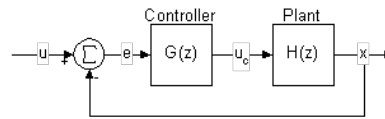

Figure 3: The Control System.
So how about using this in a control problem? Lets say that you want to use the controller described by (40) to control the plant described by (14). Control engineers like to reduce control systems to block diagrams like the one shown in Figure 3. This is an extremely simple system, which is reflected in the extremely simple diagram.
What Figure 3 shows is that the only input to the controller, e , is an error signal that is equal to the plant output, x , subtracted from the setpoint, u . This error signal drives the plant input, u_c which in turn drives the plant output, closing the loop. We'd like to know, in general, how this system responds to inputs. Solving this problem using difference equations would be difficult and roundabout. Solving it with transfer functions in the z domain is straightforward.
With b set to 1 I built a simulation of the system shown in Figure 3 and adjusted the gains according to the method outlined in [3]. The gains came out to be $k_p = 0.5$, $k_i = 0.1$ and $k_d = 0.7$. Then (49) becomes
Look back at Figure 3, and at (45). In a single-loop feedback control system, the overall transfer function will have a denominator that takes the form $1 + G_1(z)G_2(z) \dots$. The value of $G_1(z)G_2(z) \dots$ is called the *loop gain* of the system, and can usually be identified by inspecting the block diagram of the system. Any value of z that causes the loop gain of the system to equal -1 will drive denominator to zero; by definition such a value of z is a pole of the system. This means that we can find out if we're close to a pole of the *closed loop* system by inspecting its *open loop* behavior.